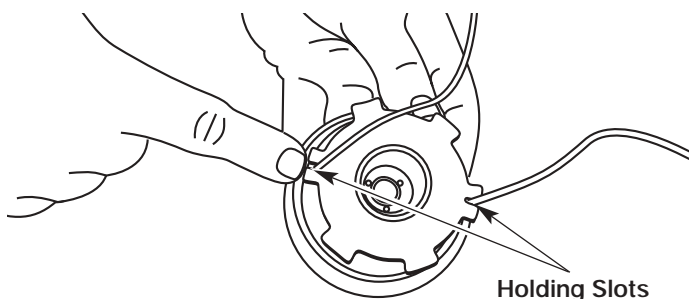

Fig. 43
12. Insert the ends of the line into the two holding slots (Fig. 43).